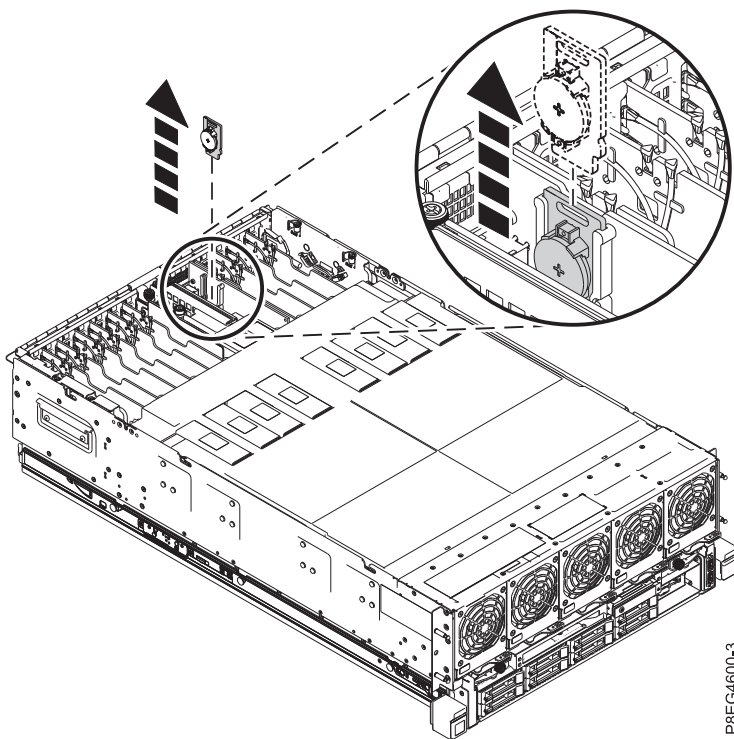

Figure 2. Removing the time-of-day battery card from slot P1-C5-C1
2. Grasp the time-of-day battery card by the top housing and pull it out of its slot in location P1-C5-C1 on the service processor card as shown in Figure 2.